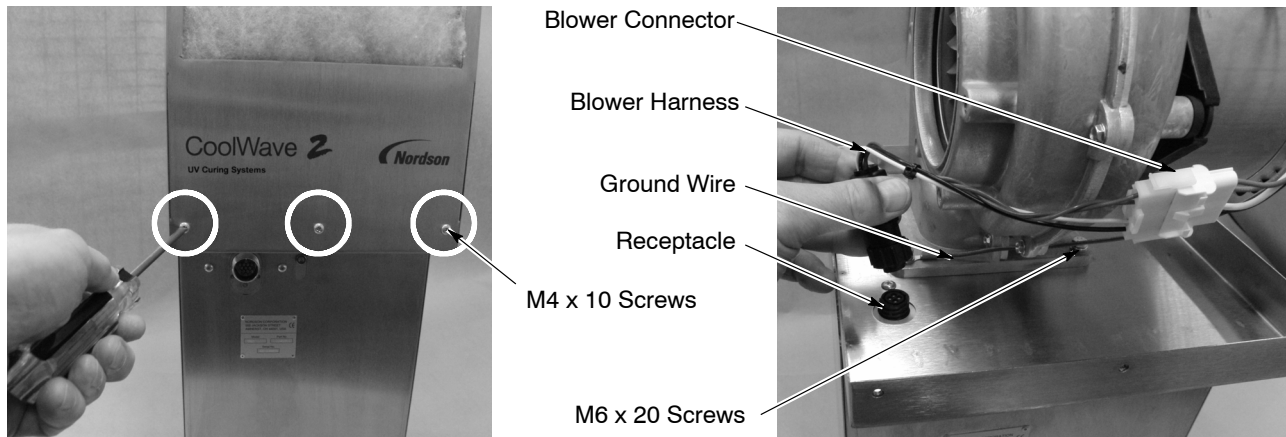

Figure 6-11 Removing Blower Cover
1. See Figure 6-11. Remove the blower cover by removing the six M4 x 10 Philips head screws (three front and three rear). Set the blower cover aside.